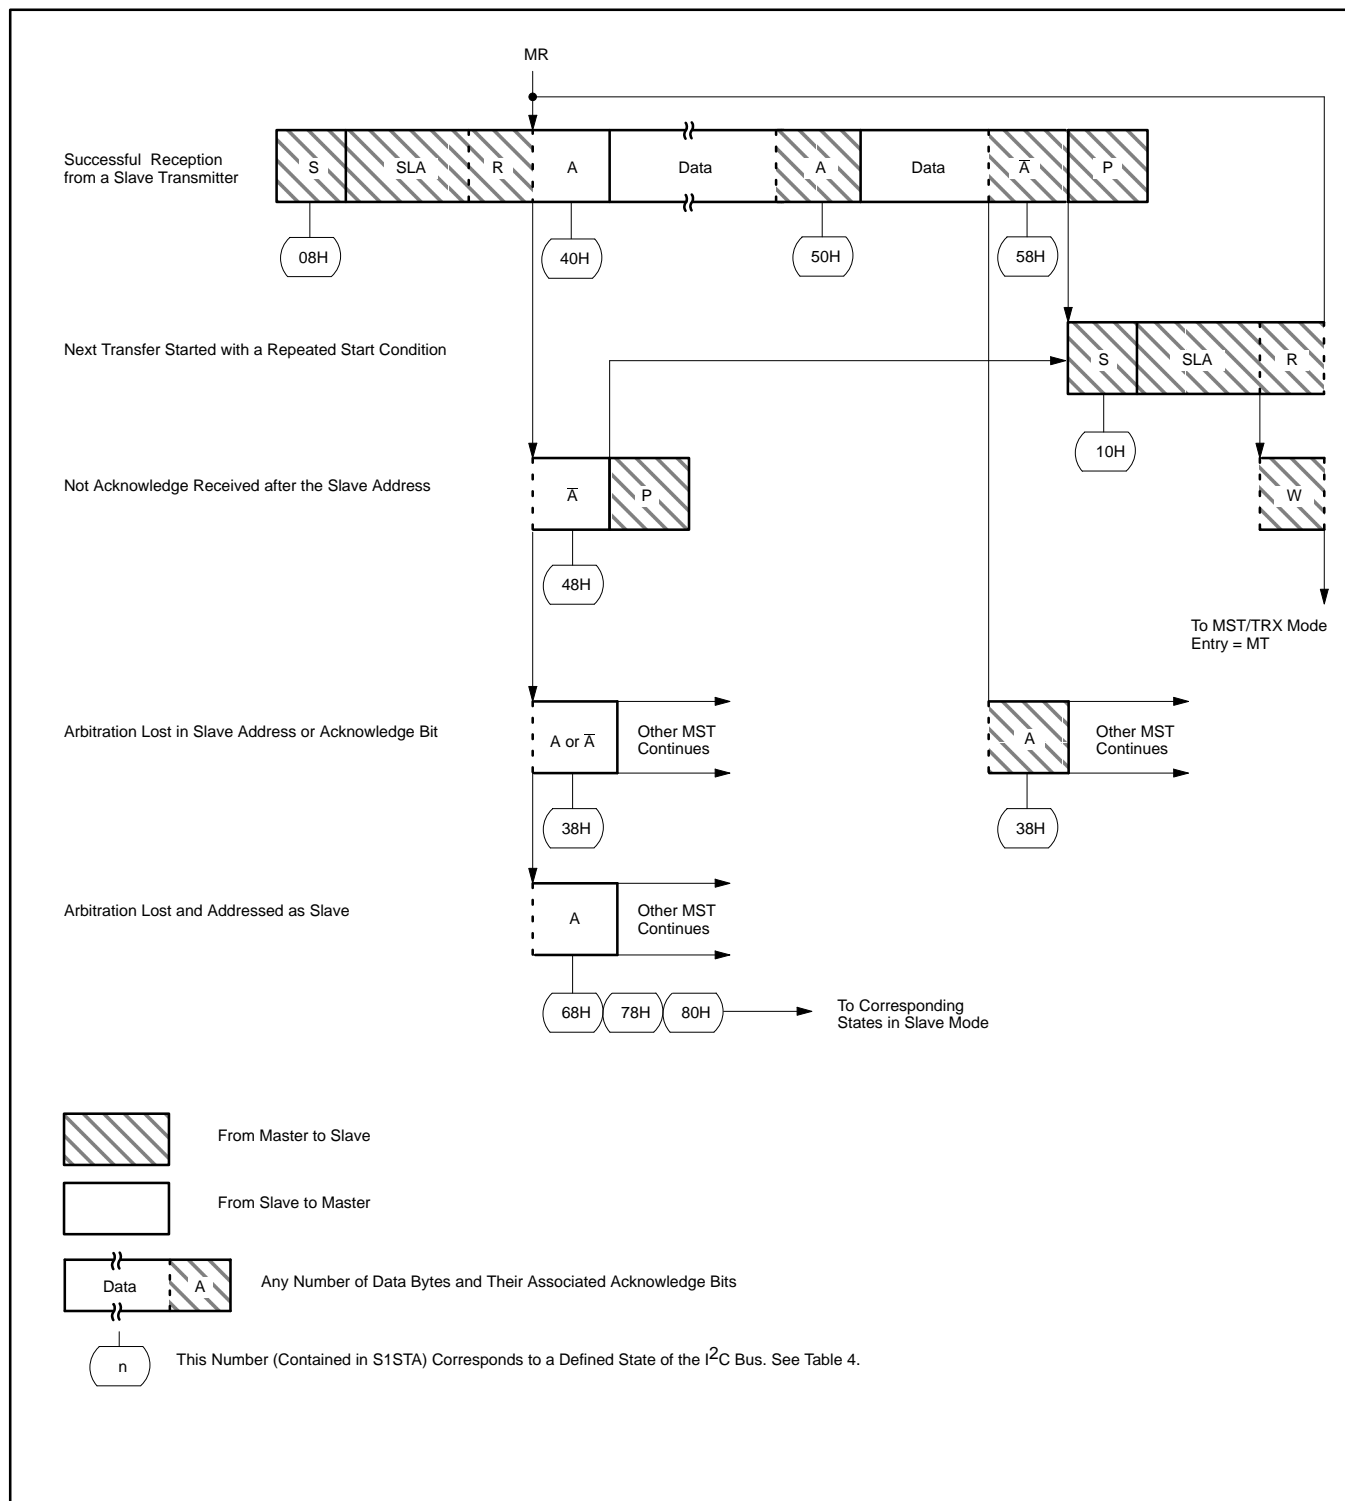

Figure 18. Format and States in the Master Receiver Mode
**Master Receiver Mode:** In the master receiver mode, a number of data bytes are received from a slave transmitter (see Figure 18). The transfer is initialized as in the master transmitter mode. When the start condition has been transmitted, the interrupt service routine must load S1DAT with the 7-bit slave address and the data direction bit (SLA+R). The SI bit in S1CON must then be cleared before the serial transfer can continue.